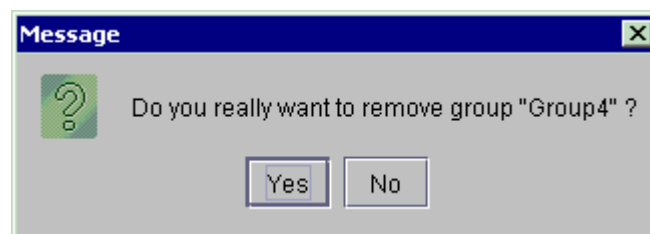

Figure 11 : message of the user group destruction
- ◆ Click on button **Remove**, the following window is displayed (Figure 11) :